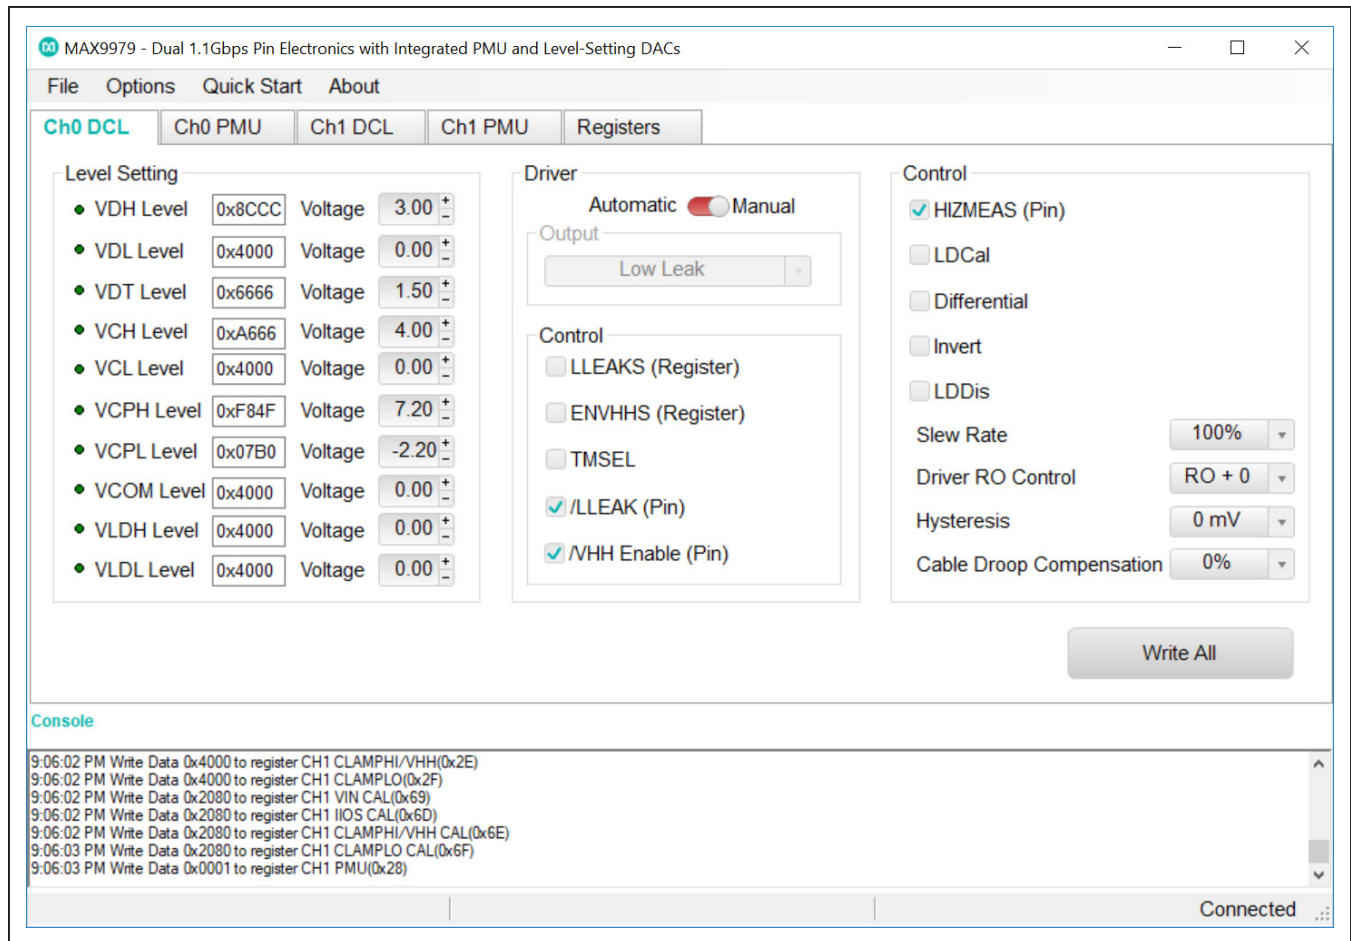
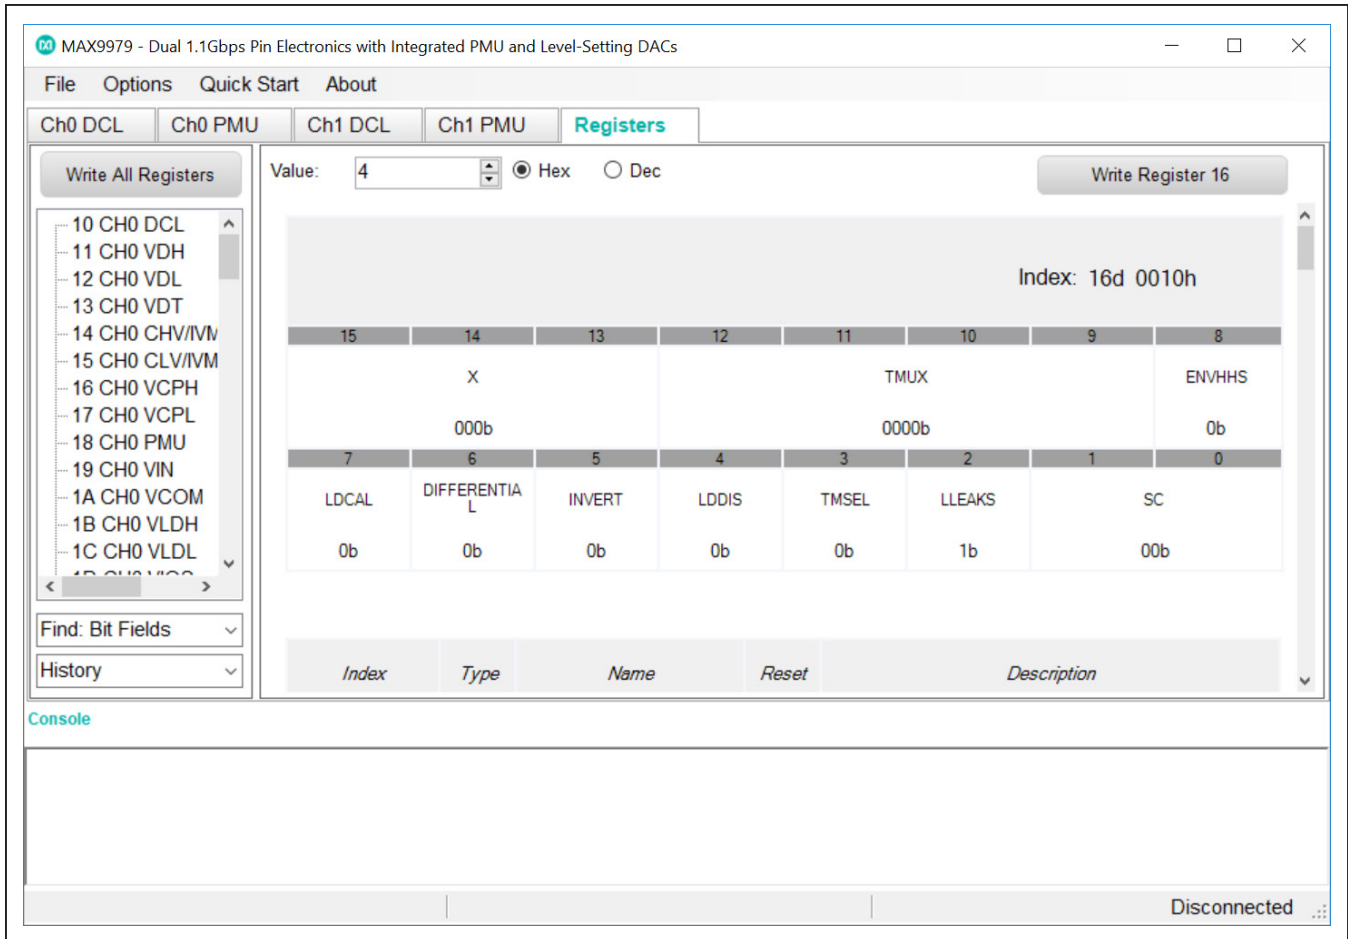

Figure 2. Quickstart Setup—Drive High Mode for Channels 0 and 1
Figure 7. MAX9979 EV Kit Software Main Window (Registers Tab)
- 17) Put the EV kit into drive mode by clicking the **Quick Start** on the menu bar of the GUI, as shown in Figure 2. This is a quick start option and places both channel 0 and channel 1 into the drive-high mode. In this mode, VDH is set to 3V and VDL to 0V for both channels.
There are two methods for configuring the MAX9979 device. The first method is through the graphical user interface as shown in Figure 2. The second method is through the **Registers** tab as shown in Figure 7. The **Registers** tab allows execution of serial commands manually. It can also be used as a debug tool because it is capable of writing to every register of the MAX9979.